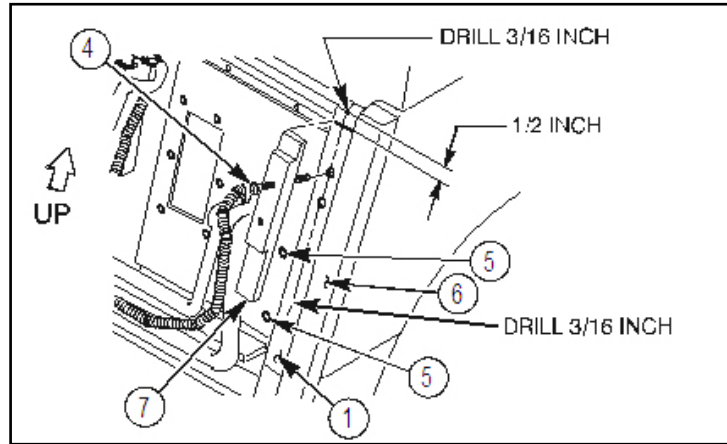

Figure 25b.
- h. Mark a hole location in the center of body channel (1), 1/2 inch up from mark referencing top of tapping plate (7), and drill a 3/16 inch diameter hole at this location. Refer to figure 25b.